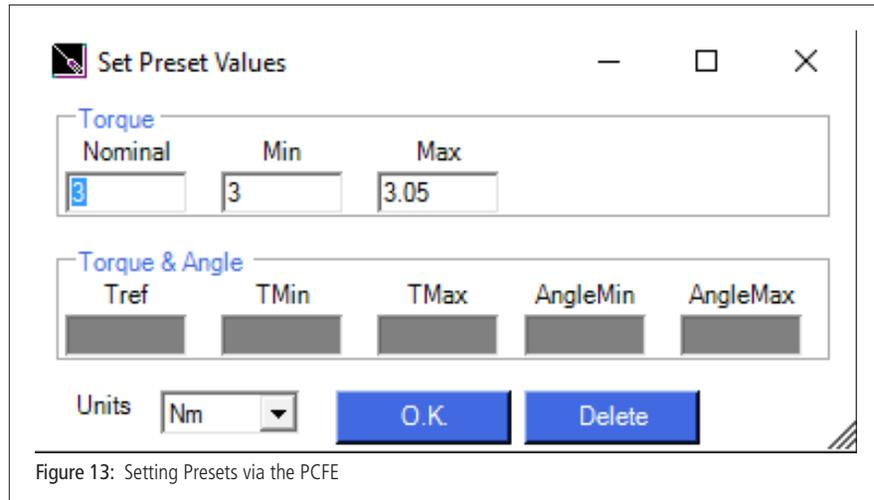

Figure 13: Setting Presets via the PCFE
1. Ensure the torque device is connected to the PCFE software selected using “Select Port” (Figure 13).